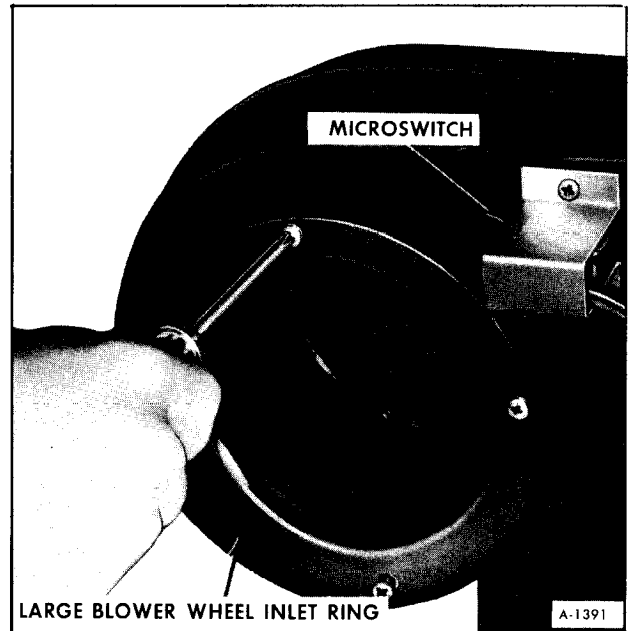

Figure 25-Removing Blower Wheel Inlet Ring
6. Remove large blower wheel inlet ring (4 screws) (figure 25).
7. Install large blower wheel inlet ring to housing (4 screws) (figure 25).